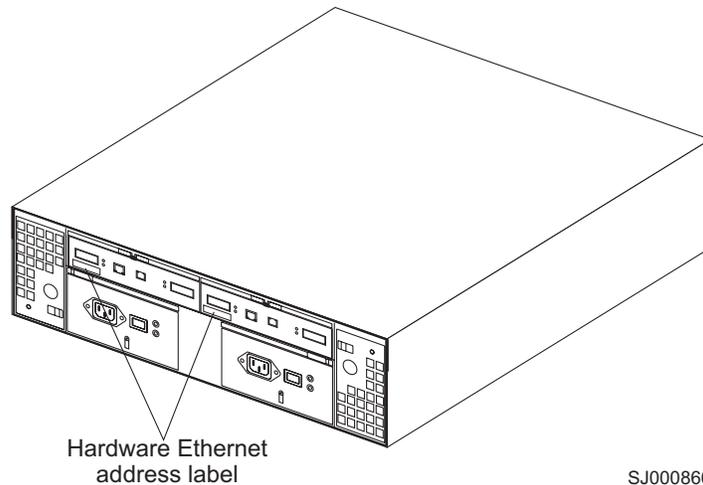

Figure 17. Locating the Ethernet MAC address (machine types 3542 [FAST200], 1724 [DS4100], and 1722 [DS4300])
1. Locate the Ethernet MAC address at the back of the unit, under the controller fibre-channel host ports, as shown in Figure 17 on page 55. The number will be in the form xx.xx.xx.xx.xx.xx (for example, 00.a0.b8.20.00.d8).